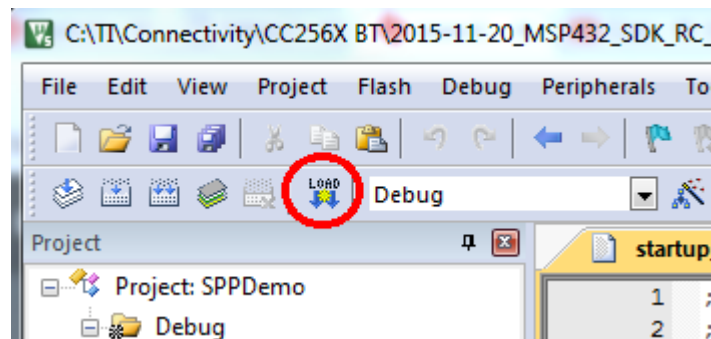

Figure 17. LOAD Button
- i. Press the LOAD button to start loading the profile on the MSP432 device (see Figure 17).